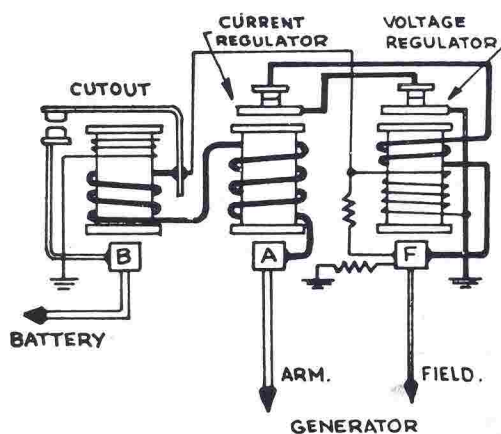

fig. 12. Basic 3 unit U.S.A. Regulator
The standard U.S.A. type regulator consists of three units—(1) a cut-out relay, (2) a voltage regulator and (3) a current regulator. The complete circuit is illustrated in Fig. 12 which shows the basic arrangement and wiring of the complete unit.